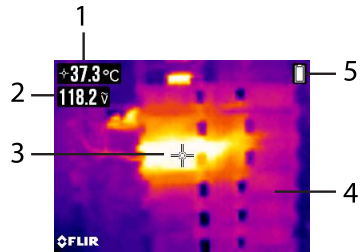

Fig. 7-1 IGM Display Example
Press the IGM button to open the Thermal Imager. In **Fig 7-1**, the meter is set to color palette IRON. Short press the Palette/Emissivity button  ϵ to select other colors. Long press the Emissivity button to open the emissivity-setting menu. Press the Emissivity button to scroll to the desired setting, press and hold the emissivity button to exit. See Section 7.3, Emissivity Factors for Common Materials
7.1.1 Thermal Image Display Description (refer to Fig. 7-1 for the list below)